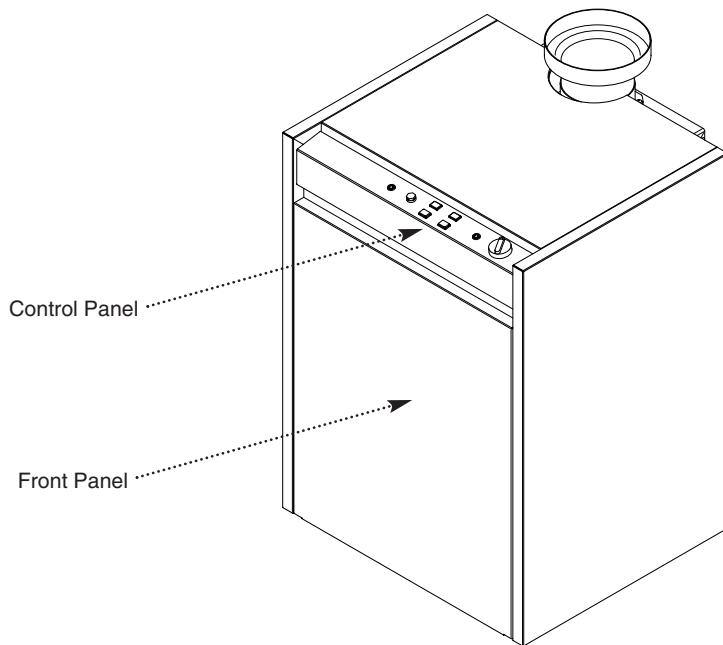

Fig. 1
3. Instructions for use can also be found behind the boiler front panel (Fig. 1).